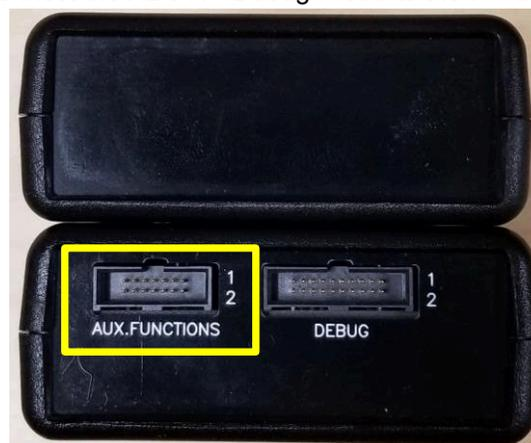

Figure 2-20. XDS110 Auxiliary Interface
2. Connect the opposite end of the 14-pin auxiliary cable to the AUX port of the XDS110 Debug Probe, as shown in Figure 2-20. Then connect the XDS110 Debug Probe to the PC using the USB cable.